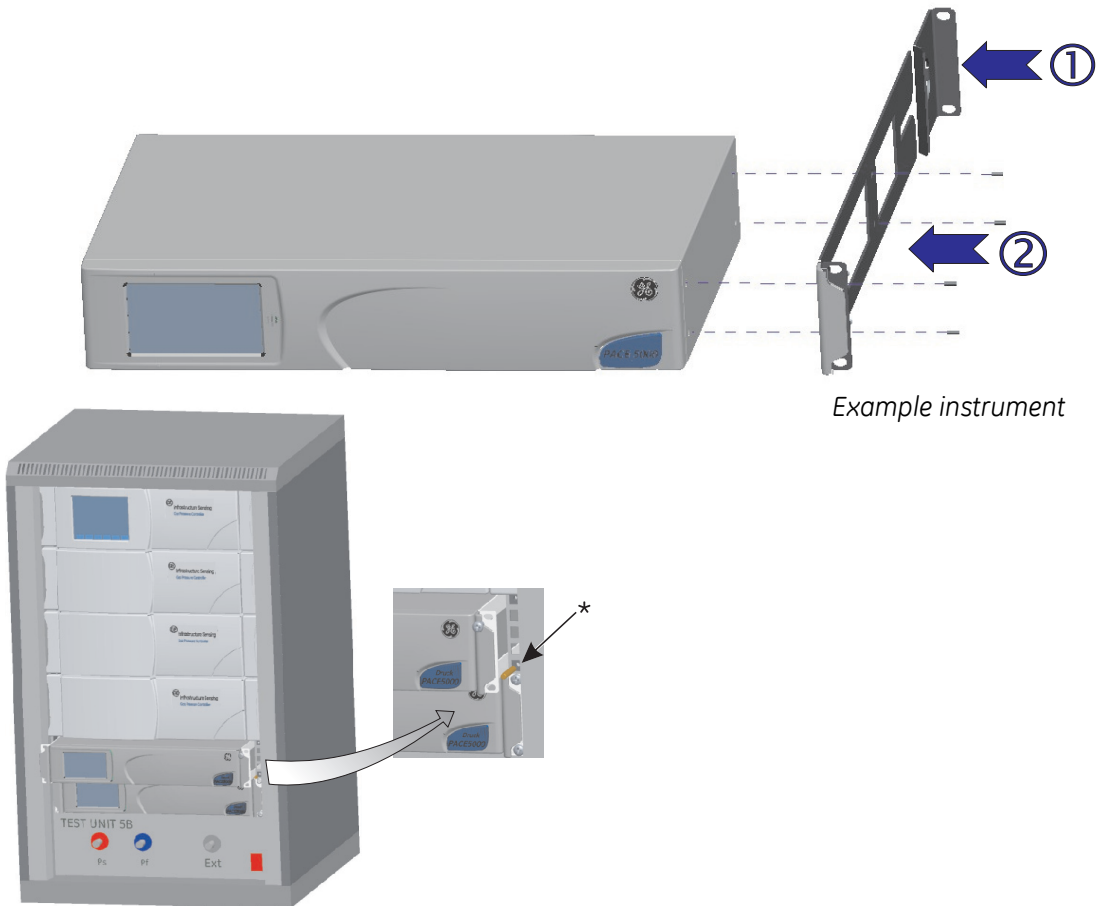

Figure 2-5 Rack-mounting
2.5 Rack-mount option (Figure 2-5)